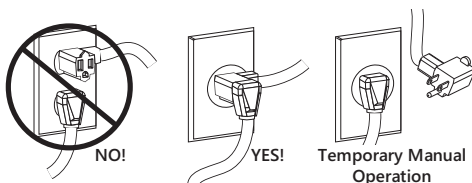

Figure 1. Piggyback Switch Operation
**Installed** pumps that are idle for greater than one month should have impellers manually operated through the breaker panel once a month to lubricate the seals. For **automatic models**, turn off the breaker, unplug the piggyback switch, and plug the pump directly into receptacle. Turn the breaker on for 30 seconds, then turn the breaker off. Plug the piggyback switch back in. Refer to Figure 1 on page 6.